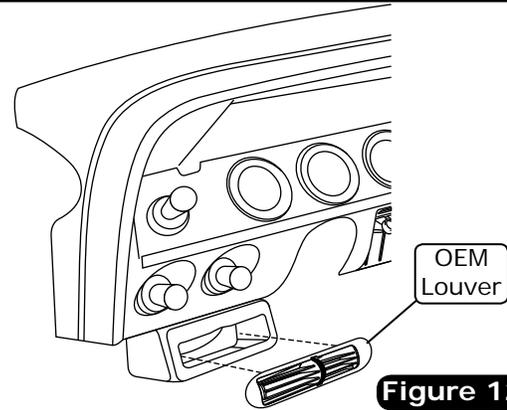

Figure 12a
3. Install the louver into the under dash bezel as shown in Figure 12a, below.